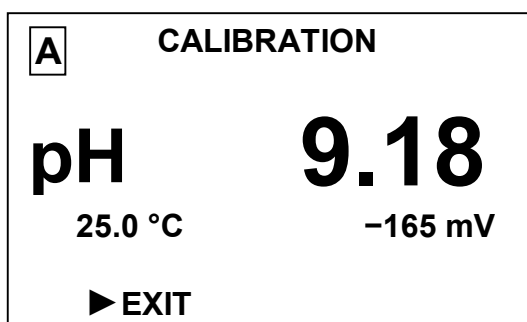

Figure 2.23
- 5 Enter the pH-value of the calibration buffer solution, in accordance with 1.5.5.2. After the value is entered (no digit is flashing), press the “menu” button. The screen as shown in Fig.2.23 will appear.